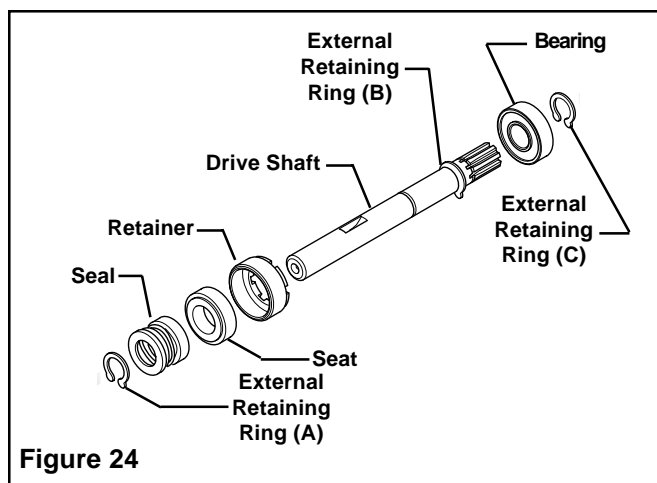

Figure 24
1. Press the new Bearing onto the Drive Shaft until it is against the External Retaining Ring (B); then, install External Retaining Ring (C) (See Figure 24).
2. Slide the Retainer, Seat, and Seal onto the Drive Shaft; then, install the External Retaining Ring (A) (See Figure 24).